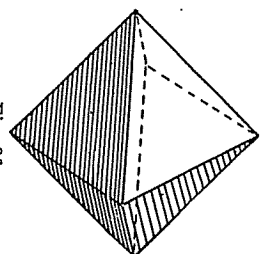

Fig. 26
**Crystallization**—Usually in the form of octahedrons when crystallized (Fig. 26).